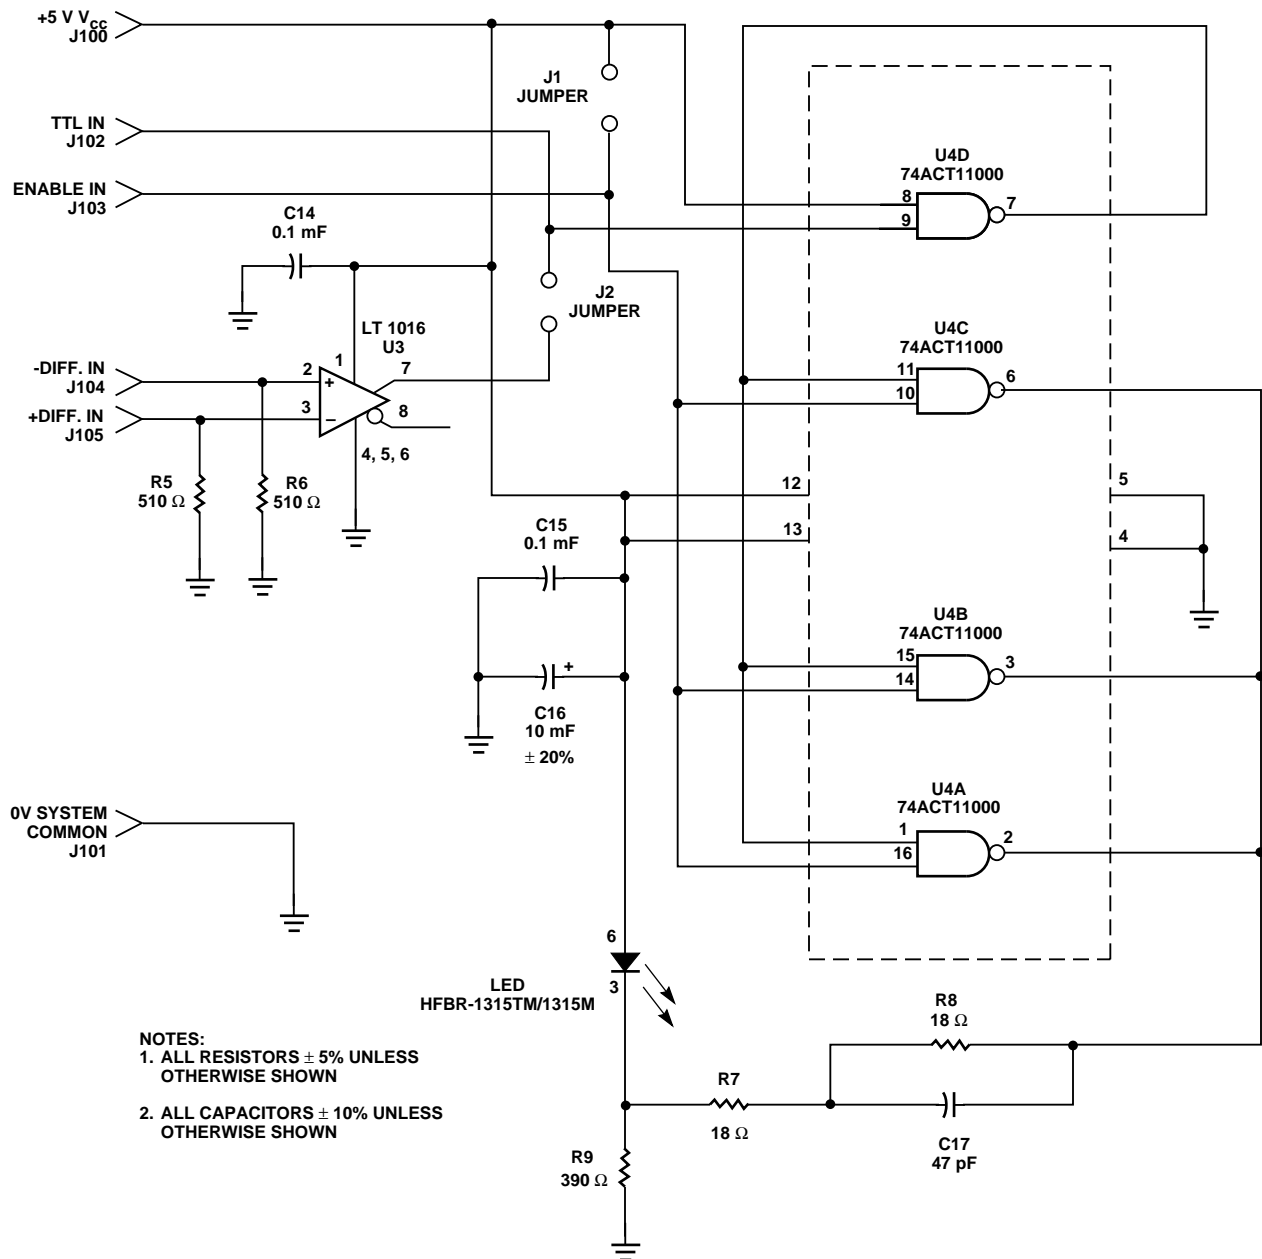
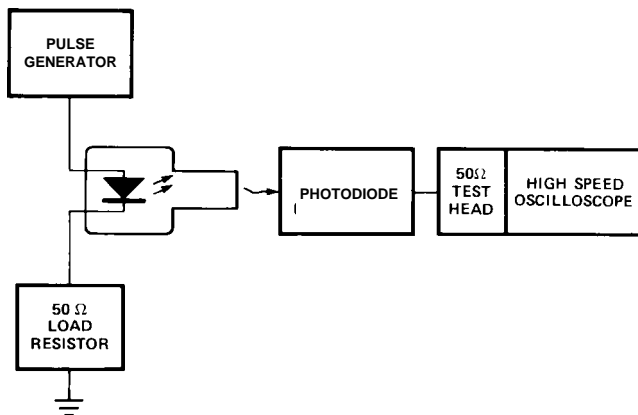

Figure 1. Recommended Transmitter Circuit.
Figure 5. Test Circuit for Measuring t_r, t_f Without Pre-Bias.
- Optical Power Budget applies to HFBR-1315TM/1315M and HFBR-2315T/2315M in the recommended application circuit (Figures 1 and 2). Worst case transmitter coupled power (P_T) is -27 dBm peak, -30 dBm average. Worst case receiver sensitivity is -36 dBm peak, -39 dBm average. Refer to Application Note 1082 for details.
4. Optical rise and fall times are measured from 10% to 90% with single-mode fiber. The “No Pre-bias” response time is measured in the recommended test circuit (50 ohm load, Figure 5) at 25 MHz, 50% duty cycle. The response time “With Pre-bias” is measured in the recommended application circuit (Figure 1).